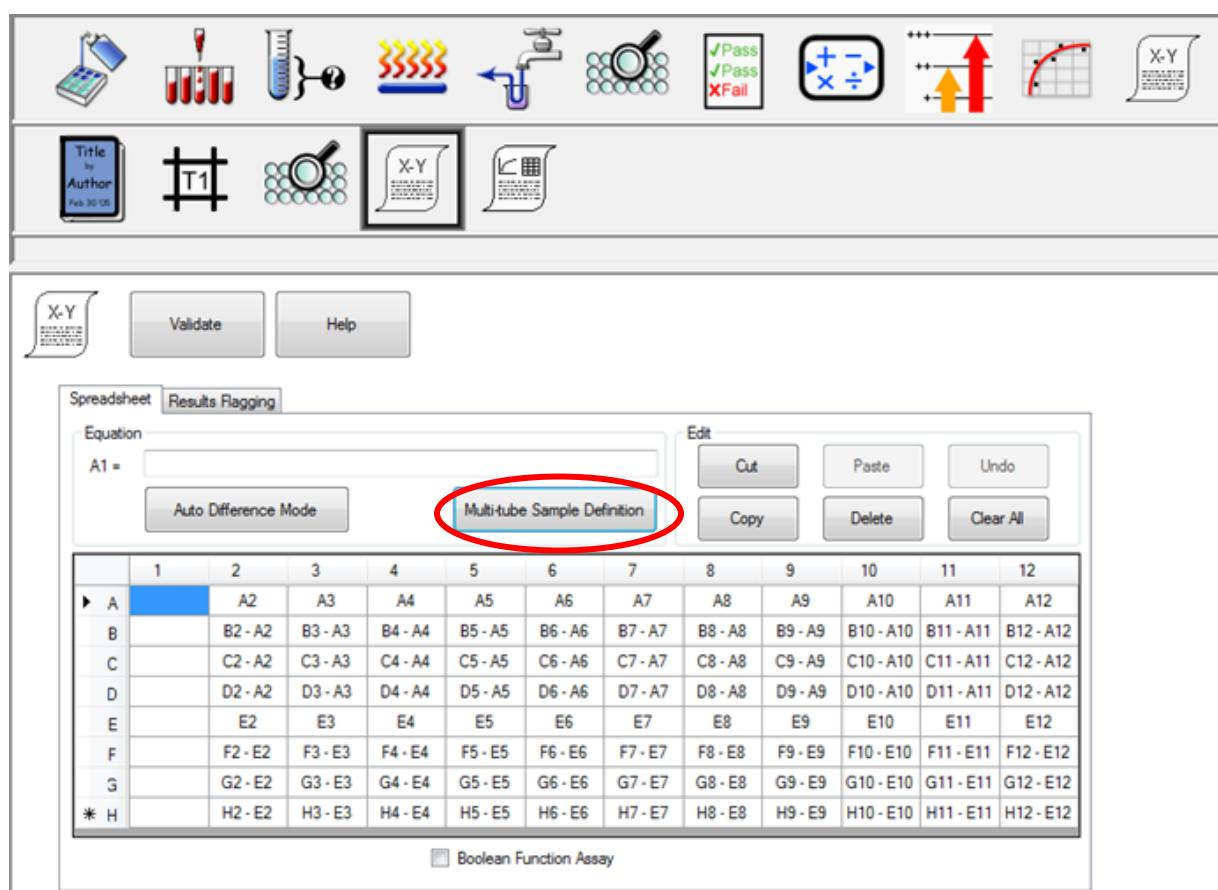
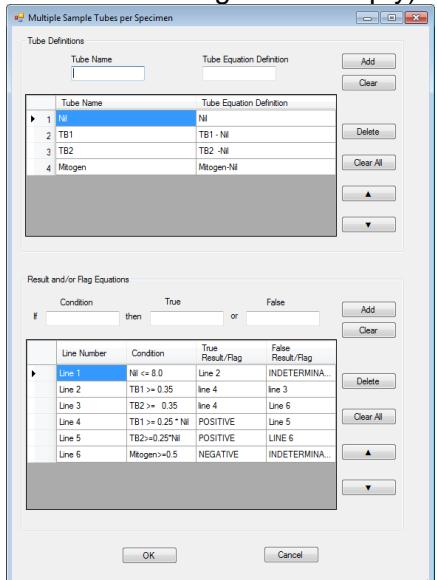

Figure 1. Multi-tube Sample Definition button (only visible when using licensing dongle)
Figure 2. Multiple Sample Tubes per Specimen Dialog
- Click on the Multi-tube Sample Definition button (circled in red in Figure 1). The dialog shown in Figure 2 will appear (note: when writing a new program, text fields in this dialog will be empty):